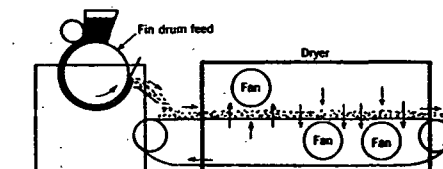

FIG. 2. SECTION OF CONTINUOUS DRYER, BLOW-THROUGH TYPE
5. Through-circulation dryers, (Fig. 2).